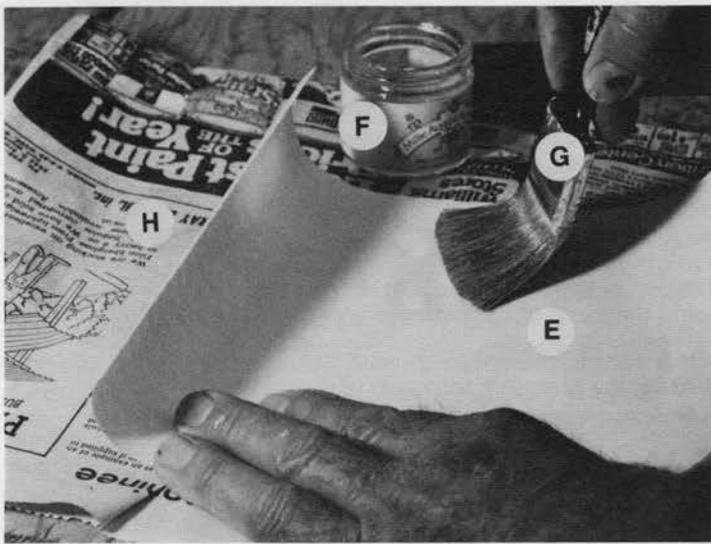

Fig. D-14
To apply adhesive, (FIGURE D-14), lay wallpaper, (E), face down on clean paper, (H), and apply paste, (F), with soft bristle paint brush, (G). The paste shown here is a special gel available from your miniature wallpaper supplier, however you may use regular wheat paste such as a regular paper hanger uses by following the manufacturers directions for mixing and applying. Whatever you do, **do not use regular white glue or rubber cement.**